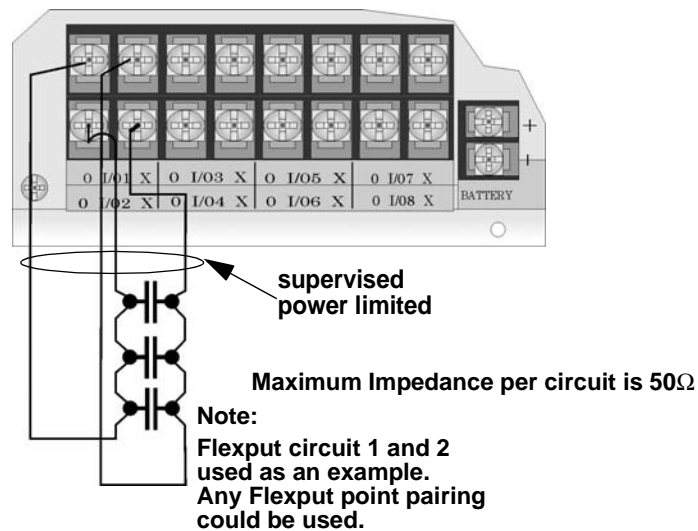

Figure 4-50 Class A initiating Switches
- Wire the Class A switch as shown in Figure 4-50.
Note: In programming any point that uses multiple Flexput circuits, the lowest Flexput circuit number is used to refer to the circuit pair. For example, Figure 4-50 uses both Flexput circuit 1 and 2, so in programming it would be referred to as point 1.